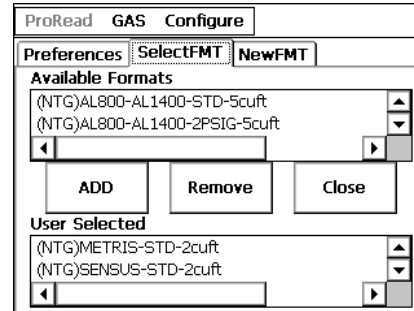

Figure 5.15 Available Gas Formats Screen
- 1 Touch or click **SelectFMT** to formats available to use for programming R900G endpoints. See Figure 5.15.